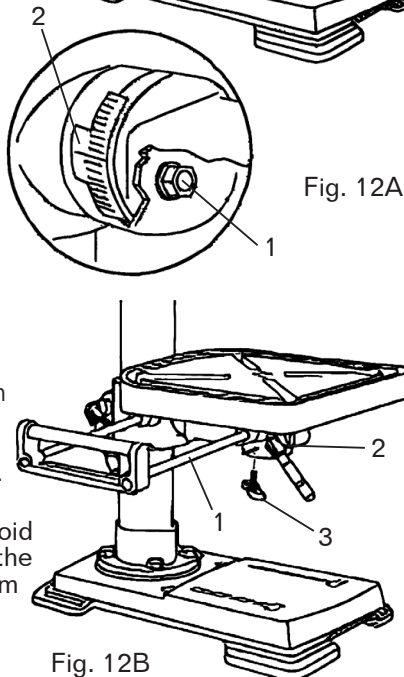

Fig. 12B
## INSTALL THE TABLE EXTENSION (FIG. 12B)
1. Insert the two rods (Fig. 12B - 1) of the table extension into the two channels (Fig. 12B - 2) at the side of the table.
2. Place a wing knob (Fig. 12B - 3) in the opening on the bottom of each channel and tighten to secure the extension to the table.